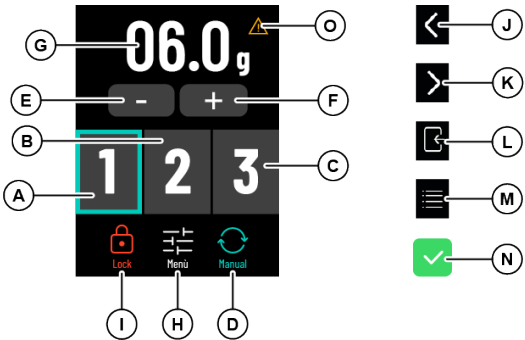

Fig. 5.2 - Main page
For the description of the display, see Fig. 5.2.
- Select the dose to be dispensed using the relative buttons (A,B,C – Fig. 5.2).
If the appliance is subjected to external disturbance (filter holder jolted, fork jolted, etc.) during dispensing, grinding will halt and the gram display (C - Fig.5.2) will show the message "in progress..."
Once the system has stabilized, it will be ready to grind again. Press one of the buttons (A, B, C - Fig. 5.2) to stop the grinding process.
- Select the dose to be dispensed using the relevant buttons (A,B,C - Fig.5.2).
- To stop the dispensing completely, keep the time of grinding on the display (C - Fig.5.2) pressed for a few moments.
In the stop condition, the grinding time on the display (C - Fig. 5.2) flashes.
To bring the dose time back to its initial value, press on the flashing grinding time (C - Fig. 5.2) for 2 seconds.
From the main page (Fig. 5.2), you can access the following functions:
To reduce or increase the selected dose, press the + or - button on the main page (E, F – Fig.5.2). The variation for the single dose is 0.1 seconds or 0,1 grams.
To enable the continuous variation of the dose time or grams, press and hold one of the two buttons + or - (E, F – Fig.5.2).